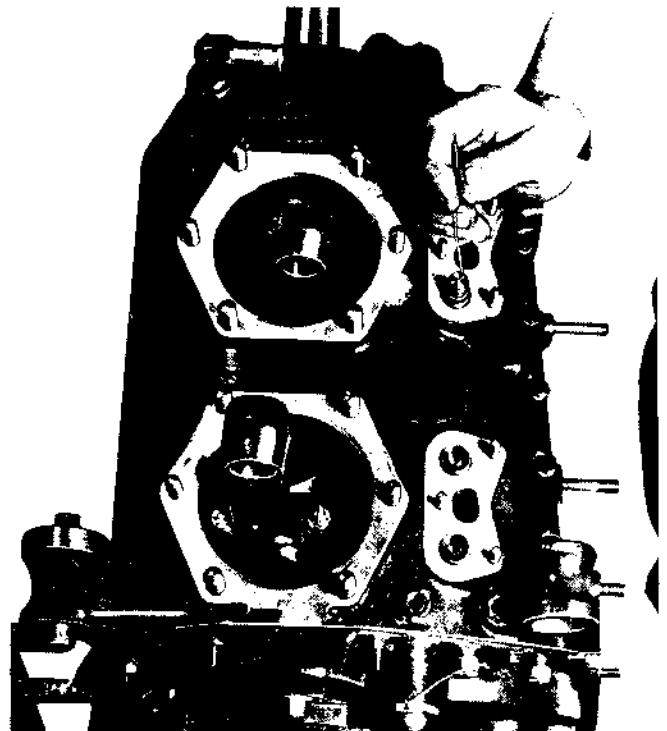

Figure 14. Removal of Hydraulic Unit from Cam Follower Body.
(1) Remove the four push rod housing flanges by unscrewing the nuts which secure them to the crankcase.
(2) Remove the valve tappet cups on the push rod end of the hydraulic valve tappets. Remove the hydraulic units of each tappet with the aid of a small wire hook. (Figure 14.) Keep tappets numbered according to the order removed-keeping assemblies grouped together.